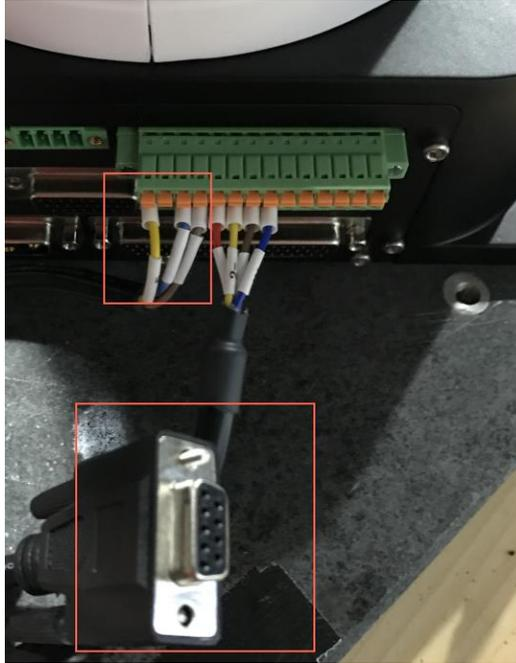

Figure 5.9 The serial port connection
- Step 1** Connect the serial port of the USB to serial line to the serial port of the base, as shown in Figure 5.9.